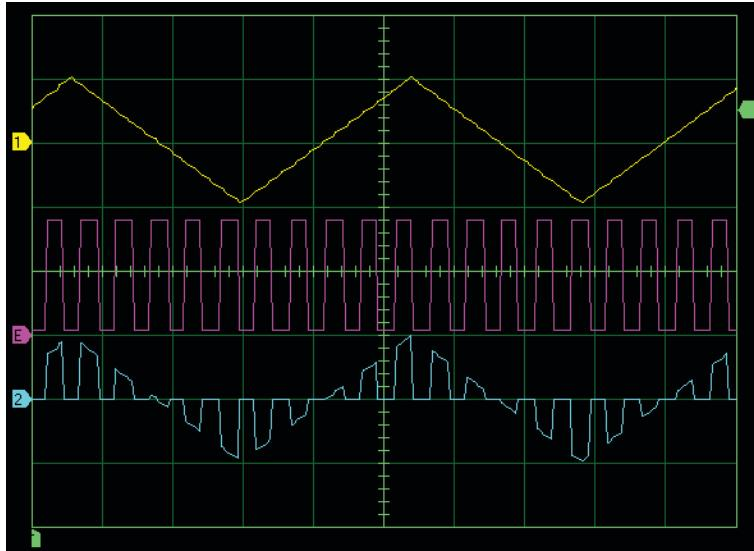

Figure 2-7. Message signal, 10 kHz sampling signal and PAM signal.
7. Show the Oscilloscope (click  in the toolbar or choose *Instruments ▶ Oscilloscope*). Figure 2-7 shows an example of settings and what you should observe.